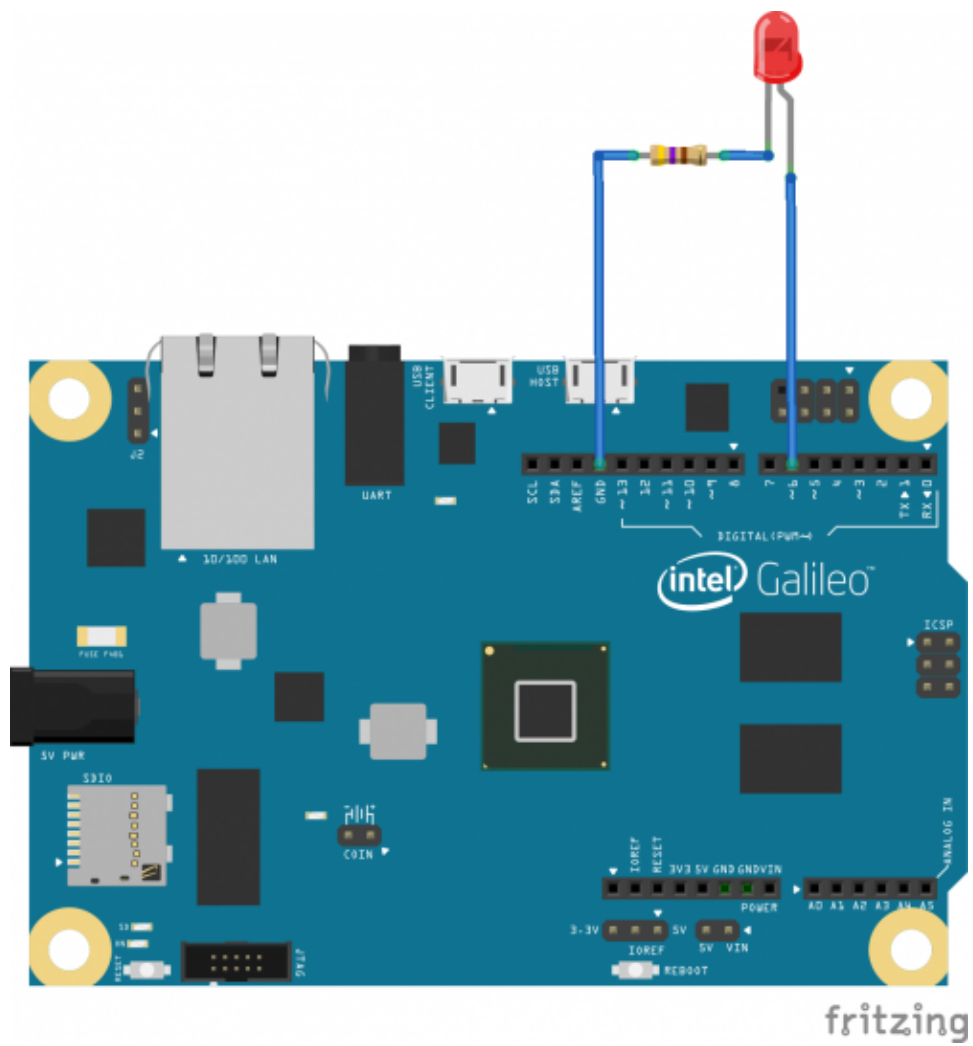

Figure 12: LED connection
**Connection:** See figure: 12
**Connection:** See figure: 12 **Experiment 3: Starting LED**